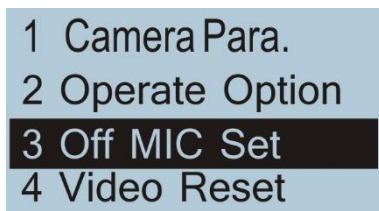

Figure 7.26
1. Select "between ballhead cameras" according to the menu sequence in Figure 7.26 and 7.27.